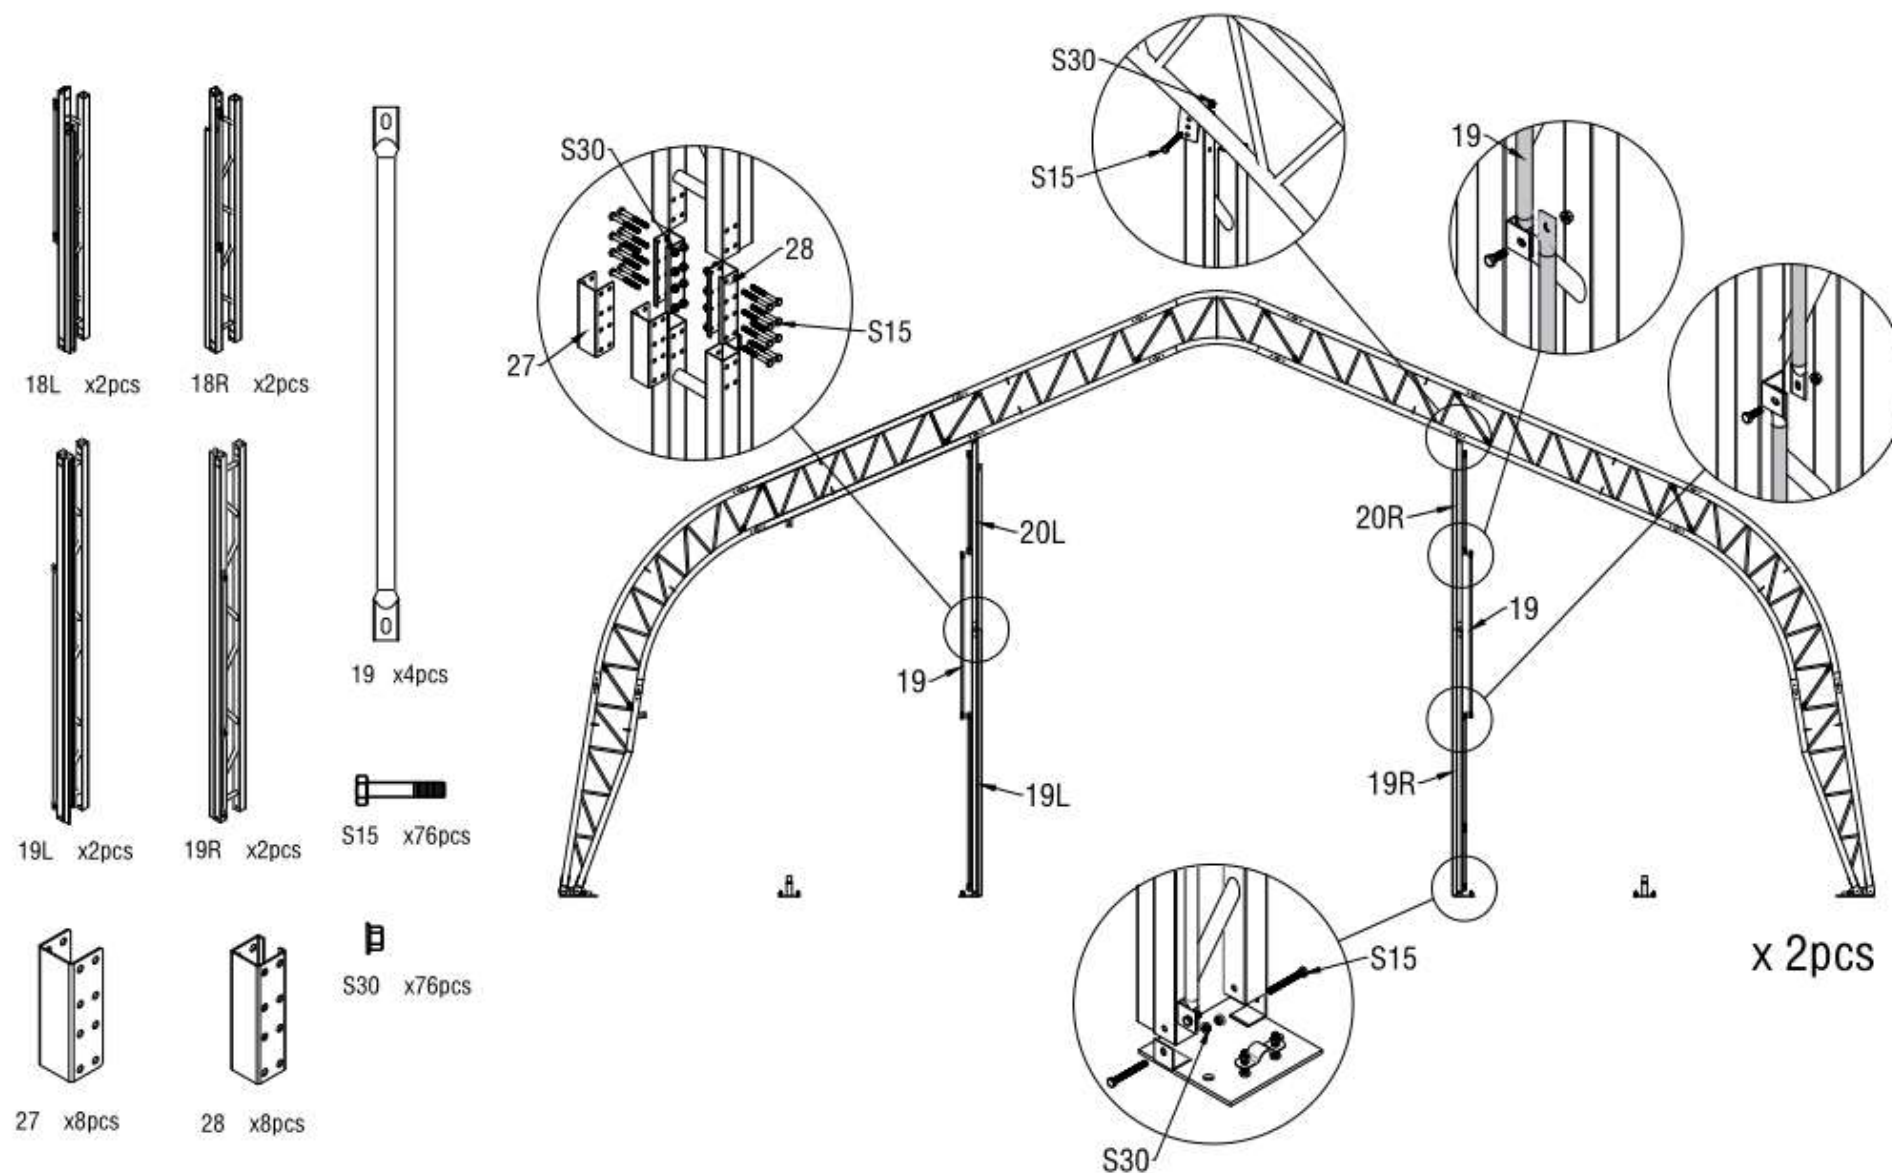

Figure 11
1. Find the relative components and assemble the front and back door accordingly(Figure 11, 12,13,14)